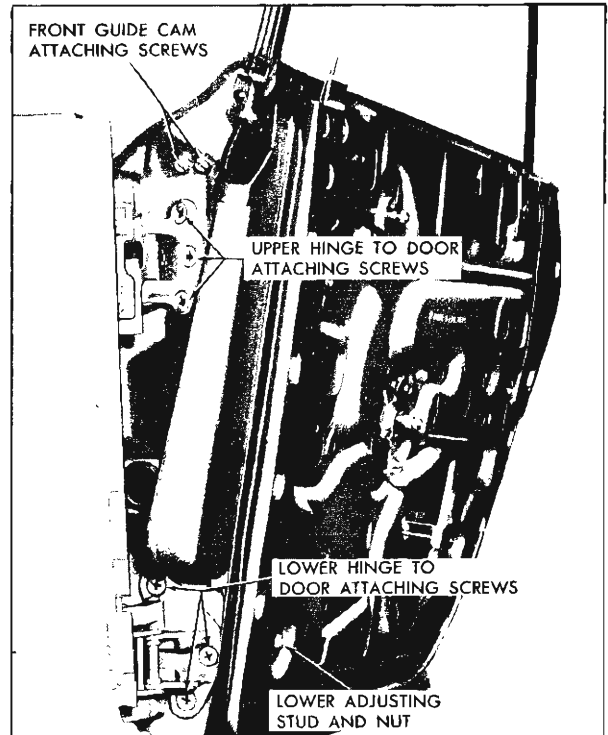

Fig. 3-37 Door Hinge Attachment
1. For in and out or up and down adjustment, loosen hinge to door pillar attaching screws (Fig. 3-37). Adjust door as required and tighten screws.